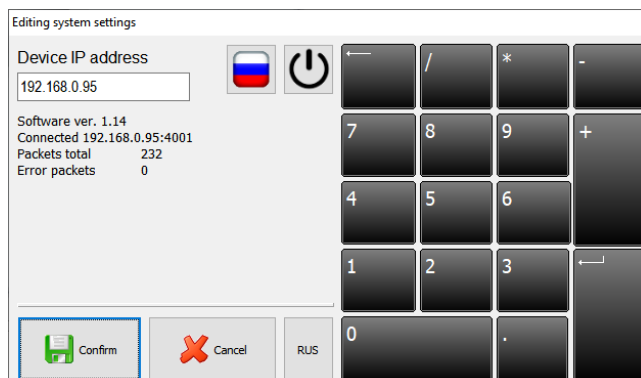

Figure 7. System parameters editing window (for software versions v1.10 and higher)
- SCADA software version v1.10 and higher – left-click the button, located at the bottom of the screen  and set the required IP-address accordingly (see Fig. 7).